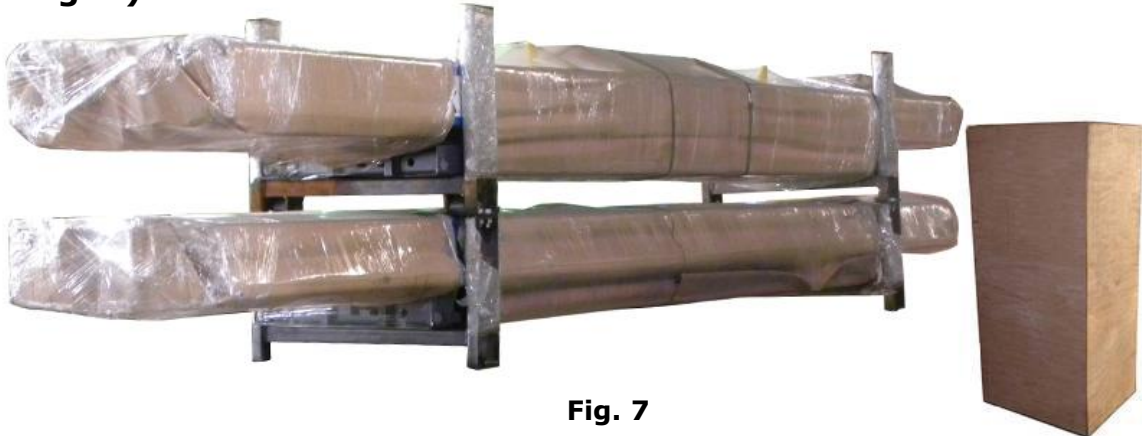

Fig. 7
1. Received package (Packaged lift , control cabinet and Guide Ramp. Etc.)(See Fig. 7).